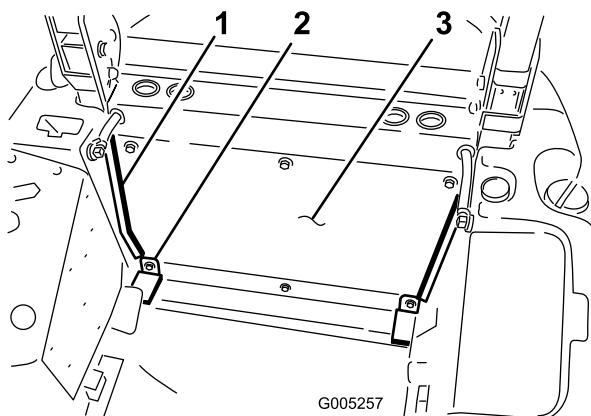

Figure 60
1. Seal (2) 3. Rear panel
2. Corner mat (2)
4. Remove the backing and affix the self-adhesive seals to each edge of the rear panel (Figure 60). Make sure each seal butts up against the fuel tank side panels.